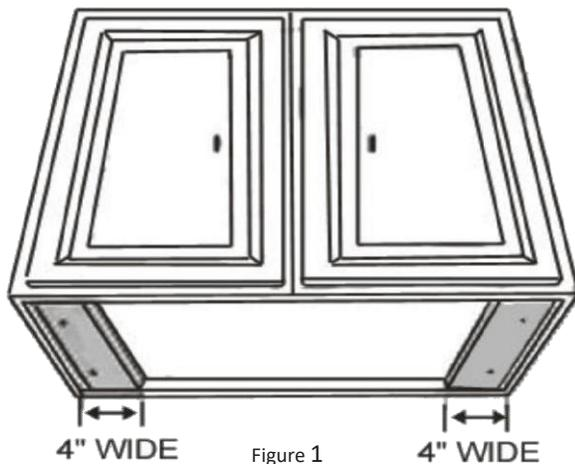

Figure 1
- For installing under the cabinet with recessed bottom, attach 4" wide wood filler strips (not provided) on each side. See Figure 1.
3. From the inside of the hood, place hood mounting screws in the exact center of each knockout holes and secure to the cabinet bottom. Tighten all screws until secure. Be careful when using electrical screwdriver in order not to damage the range hood. If venting is to be done vertically, connect and secure the 6" round metal duct (refer to figure 1).
In the case of vertical evacuation use a 6" round metal pipe (as in figure 1) to connect the exhaust on the hood to the ductwork. Use duct tape to make all joints secure and airtight.